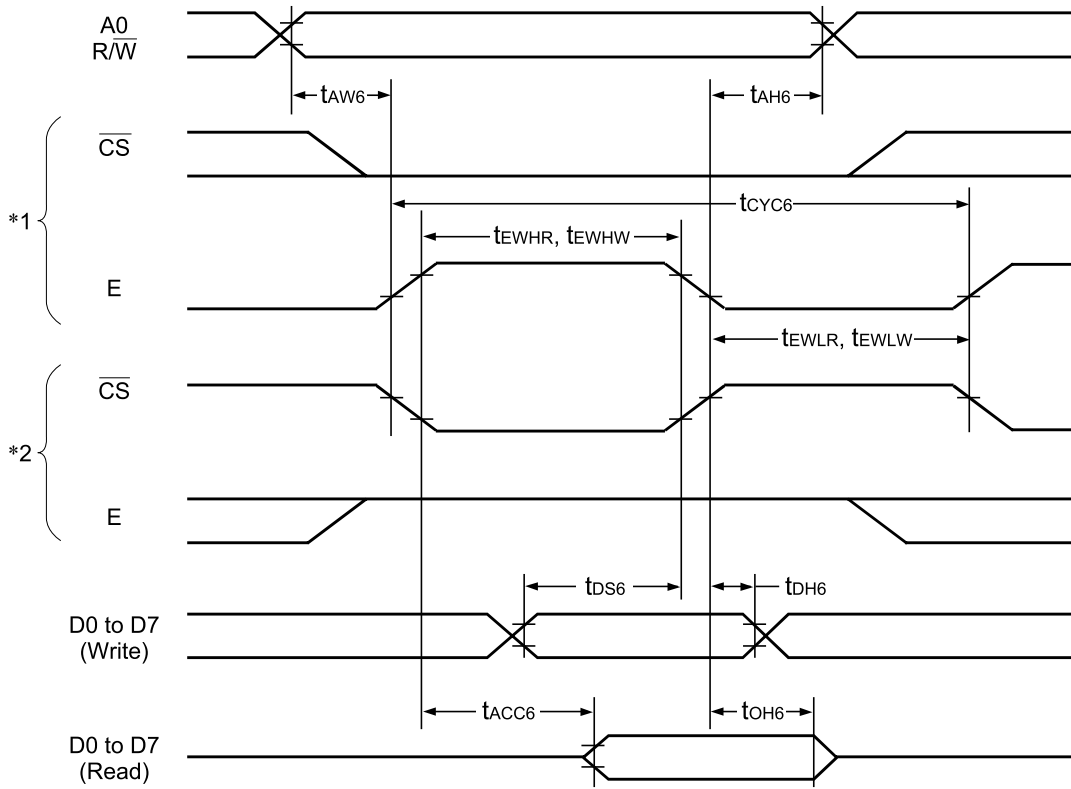

Fig. 27
- \*2 For the  $V_{DD}$  and  $V_0$  operating voltage ranges, see Fig. 27. These ranges are applied when using the external power supply.
- \*3 A0, D0 to D5, D6 (SCL), D7 (SI),  $\overline{RD}$  (E),  $\overline{WR}$  (R/ $\overline{W}$ ),  $\overline{CS}$ , CL, FR, M/S, C86, P/S,  $\overline{DOF}$ , and  $\overline{RES}$  pins
- \*6 Applied when D0 to D5, D6 (SCL), D7 (SI), CL, FR, and  $\overline{DOF}$  pins are in the high impedance state
- \*7 Resistance value when the 0.1 V voltage is applied between the output pin SEGn or COMn and power supply pins (V1, V2, V3, and V4). Specified within the range of operating voltage (3)